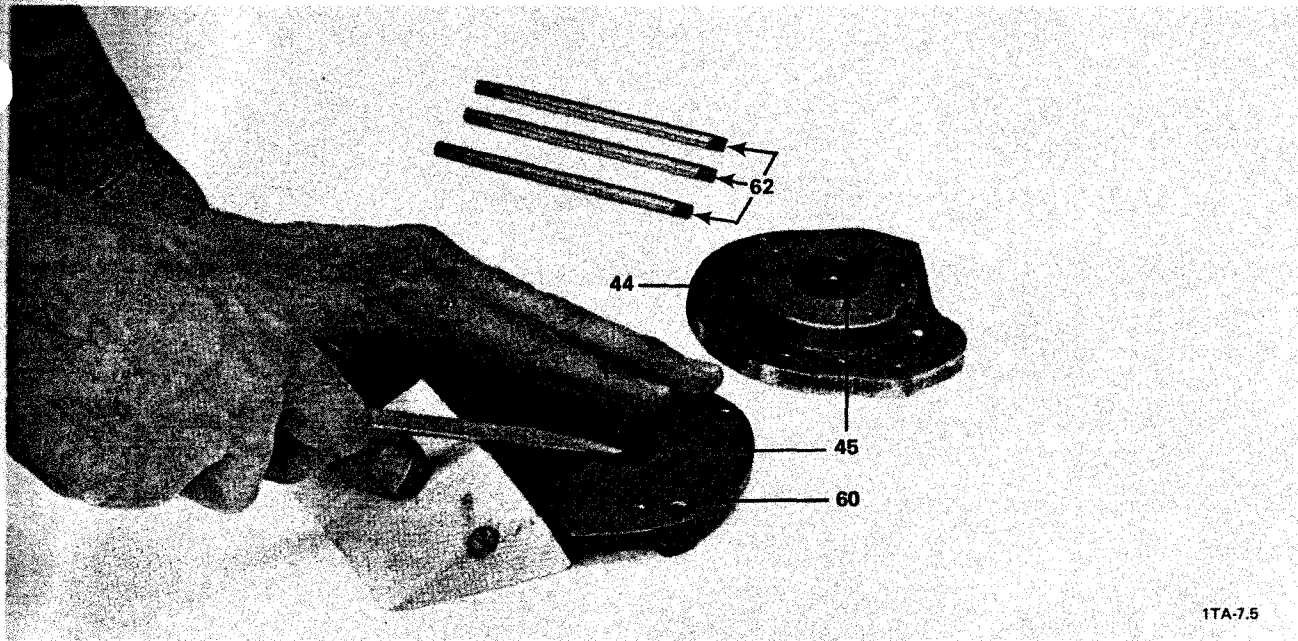

Figure 5-12. Removing the Radial Shaft Seal From the End Plates (D2A Pump Model Shown)
Remove the radial shaft seal (45) from the rear end plate (60) as follows (see Figure 5-12).
- c. Using the wooden block as a fulcrum and the screwdriver as a lever, pry the shaft seal (45) out of the end plate.
- D-9 Unscrew and remove the threaded studs (62) from the front end plate (44). (See Figure 5-12.)